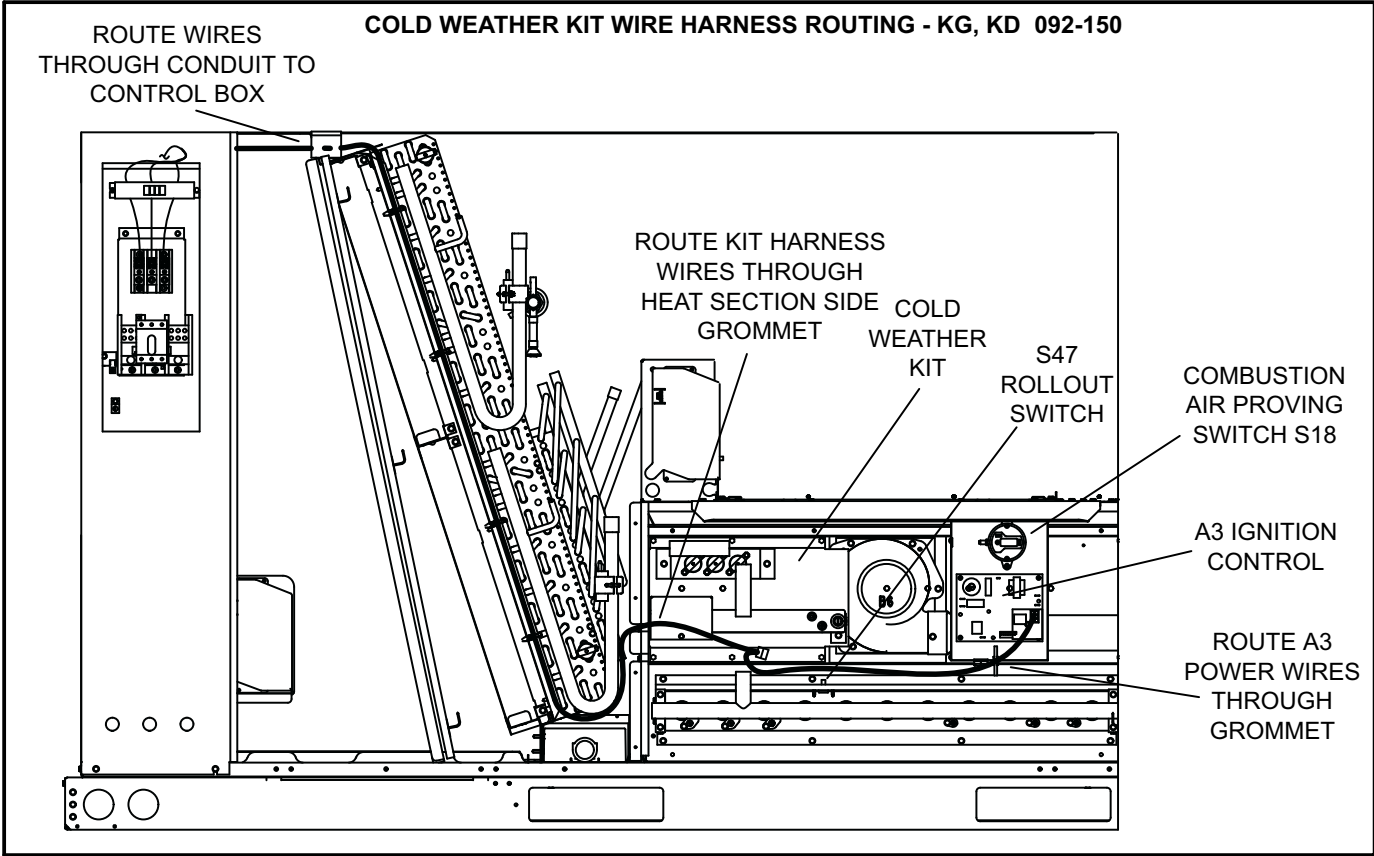

FIGURE 6
- 3- Locate the kit harness labeled 604956-01 and identify six wires labeled K1-L1, K1-L2, K125-4, K125-7, K125-A, and K125-B. Route the six wires from the heat section through the side grommet to the control box. See figure 6. Discard harness labeled 604954-01 provided in kit